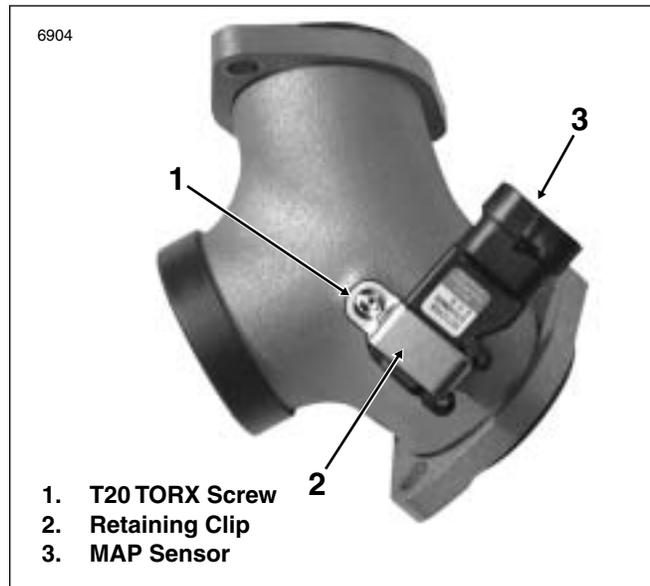

Figure 8-7. Intake Manifold
3. Remove T20 TORX screw to release retaining clip from intake manifold. See Figure 8-7.
3. Install T20 TORX screw and tighten to 25-35 in-lbs (2.8-4.0 Nm). See Figure 8-7.